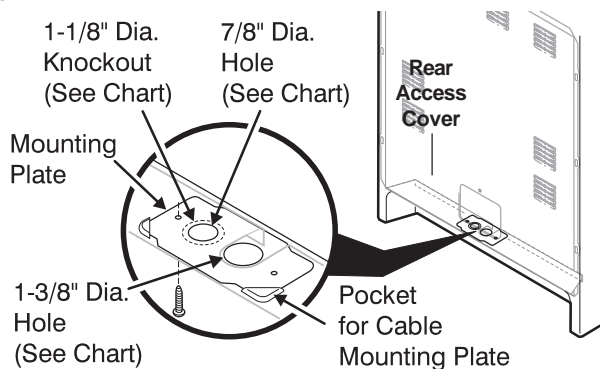

Fig. 9
See Range Connection Opening Size Chart (Figs. 9 & 10) for cord kit ampere rating information. Terminals on end of wires must be either closed loop or open-end spade lugs with upturned ends.
The Rear Access Cover must be removed (Fig 9). To remove, loosen center screw (one screw) and remove cover. The terminal block will then be accessible.
NOTE: Range is shipped from factory with 1-3/8" dia. hole as shown. To use either 7/8" dia. hole or 1-1/8" dia. knockouts refer to Fig. 9.
- Follow the manufacturer's installation instructions supplied with the strain relief and install (Also see Figs. 9, 10 & 11).
- Make sure all screws are tightened securely and replace the rear access cover (See Fig. 9).
1. Follow the manufacturer's installation instructions supplied with the strain relief and install (Also see Figs. 9, 10 & 11).
3. Make sure all connections are tightened securely and replace the rear access cover (See Fig. 9).
5. **(3 & 4 - Wire Permanent Connections)** Make sure all connections are tightened securely and replace the rear access cover (See Fig. 9).